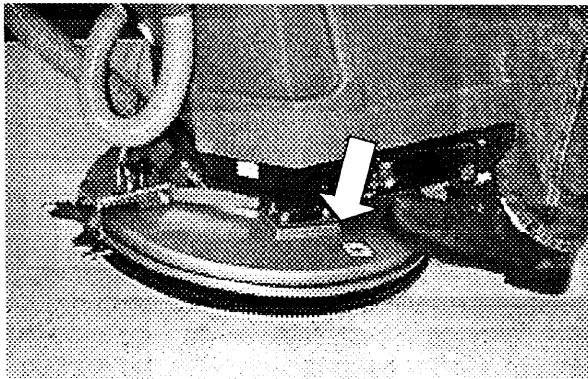

FIG. 17.
4. Slightly step down and release on the right front side of the pad shroud. Pad shroud will rise to pad installation position. (Figure 17)